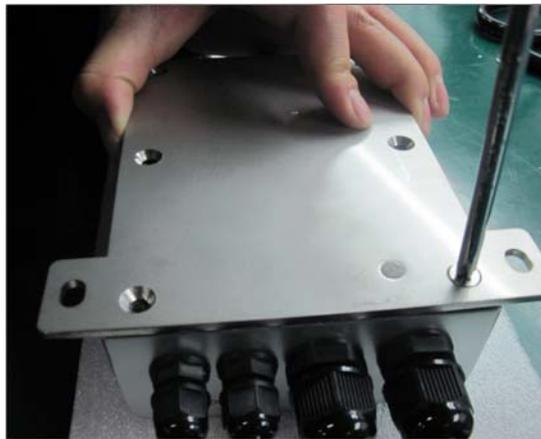

Fig 4-1 Remove the backboard
(1) Disassemble the backboard of Intersensor BOX with a spline screwdriver, as shown in Fig. 4-1.